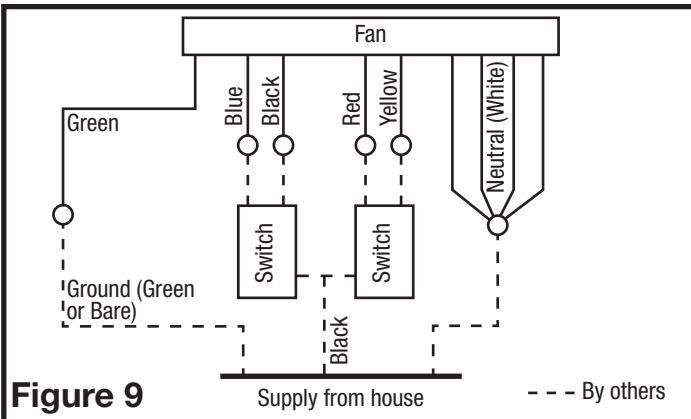

Figure 9
3. Connect the white wire from the house to the four white wires from the fan. Connect one hot (black) wire from the wall switch to the black wire from the fan (this is the fan control). Connect second hot (red) wire from the wall switch to the red wire from the fan (this is the heat control). Connect the third hot (blue) wire from the wall switch to the blue wire from the fan (this is the main light control). Connect the fourth hot (yellow) wire from the wall switch to the yellow wire from the fan (this is the night light control). Connect the ground wire from the house to the green wire from the fan (**Figure 9**). Use approved methods for all connections.